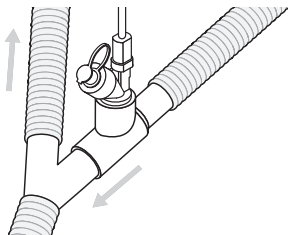

Figure 5. Connecting the Aerogen Solo to an adult breathing circuit
1. For 22mm **adult breathing circuits** connect the nebulizer with adult T-piece into the inspiratory limb of the breathing circuit before the patient Y (Figure 5).
For 15mm **pediatric breathing circuits** connect the nebulizer with the pediatric T-piece into the inspiratory limb of the breathing circuit before the patient Y, as shown for the adult T-piece in Figure 5.
The Aerogen Solo is suitable for use with non-invasive ventilation in a dual limb circuit as shown above in Figures 5, 7, 8 & 9.